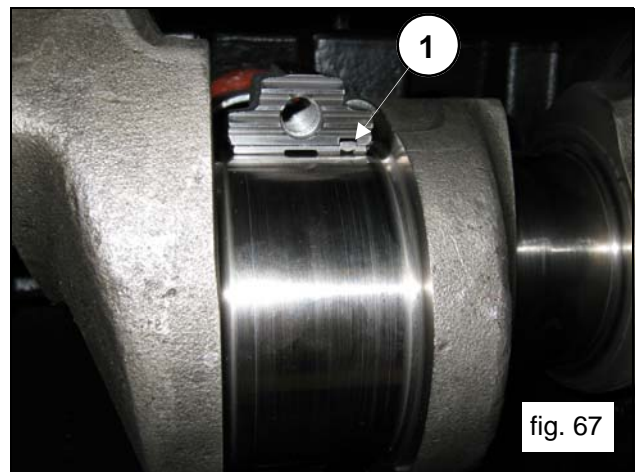

fig. 67
For proper assembly of the half-bearings, ensure that the reference tab on the half-bearings are positioned in their housing on the half support (pos.①,fig.67).